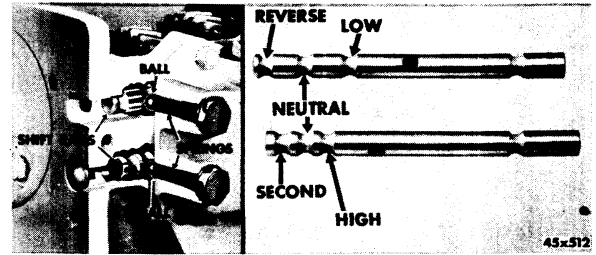

Fig. 9—Assembly of Shifter Rails
- (10) Install mainshaft rear bearing, speedometer drive gear, and bearing spacer on transmission mainshaft.
- (11) Place this assembly in transmission extension housing, locking it with a new snap ring in front of mainshaft center bearing.
- (12) Install low speed gear which has a maximum backlash of .006 inch, measured at the pitch line of the gear teeth.
- (13) Install second speed gear and synchronizing unit on mainshaft and lock with a snap ring in front of synchronizing unit. Extension housing, mainshaft, and its component parts may now be assembled to the transmission proper, being careful not to disturb synchronizing unit. Use a new gasket.
- (14) Place shifter forks in position and insert shifter fork guide rail. Install two shifter rails.
- (15) The two shifter rails (Fig. 9) are similar in appearance, except that the first and reverse shifter rail has detent grooves farthest apart. This rail should be installed